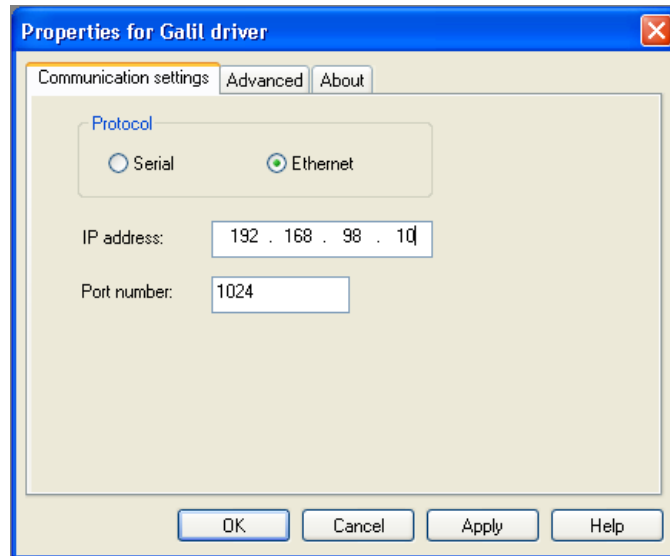

Figure 4: Correct settings for connecting to the DMC-30012
- 2.5. When all the properties are chosen correctly, your window should look like Figure 4 below. Press "Apply" and then "OK."